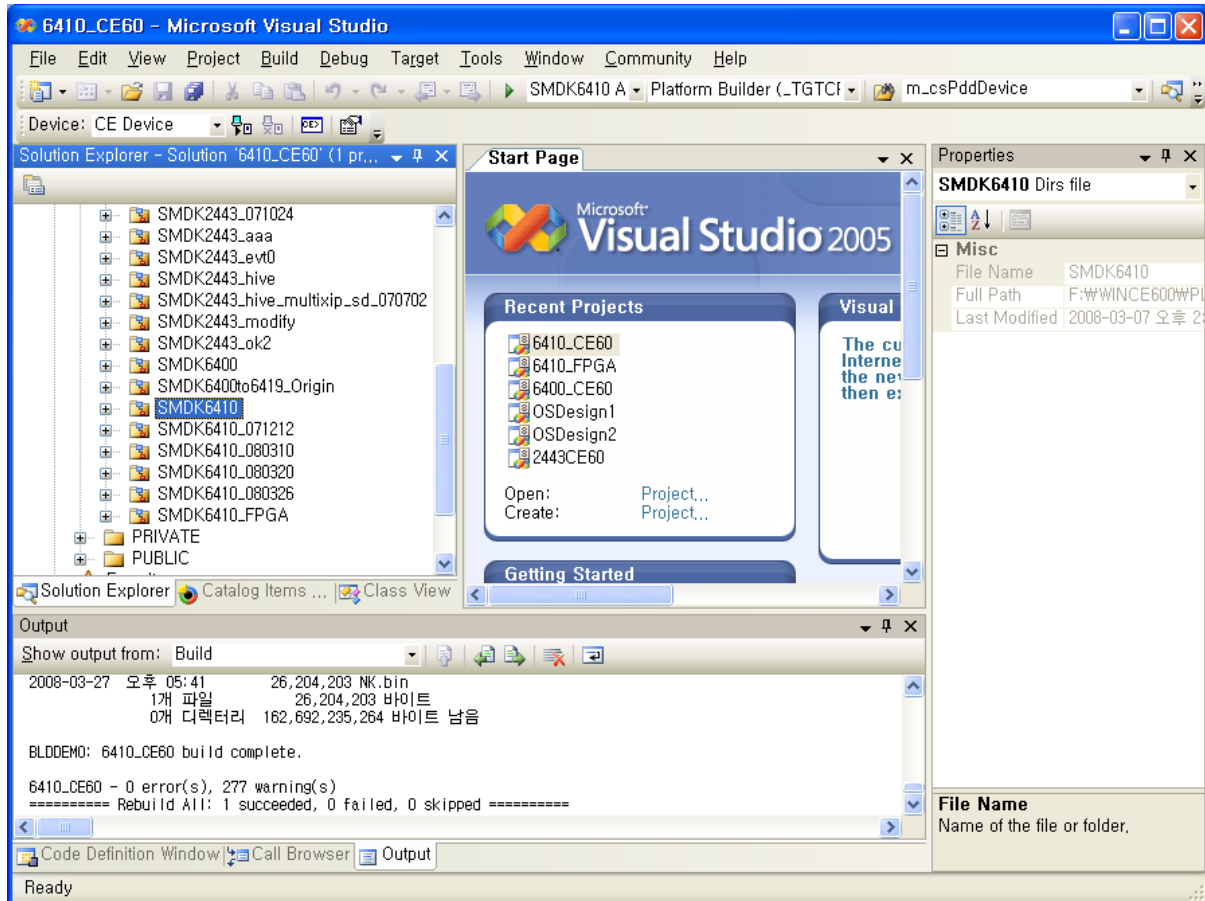

Figure 4-15 After Building the OS Image
15. After completion of build process, following messages appear as shown in figure 4-15. EBOOT.nb0, EBOOT.bin, block0imag.nb0, NK.bin and NK.nb0 are now available in X:\WINCE600\OSDesigns \[OS Design Name] \[OS Design Name]\RelDir\SMDK6410\_ARMV4I\_Release directory.